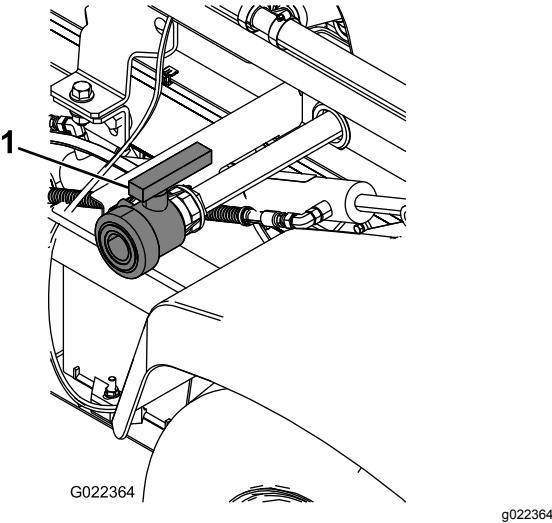

Figure 72
2. Locate the tank drain valve on the left side of the machine (Figure 72).